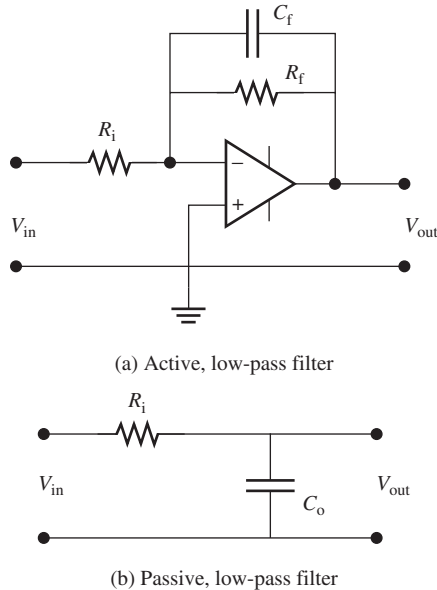

FIGURE P11.29 (a) Active and (b) passive low-pass filters.
- 11.29 (A) Find the gain of the two low-pass filters shown in Figure P11.29, and analyze their pros and cons.